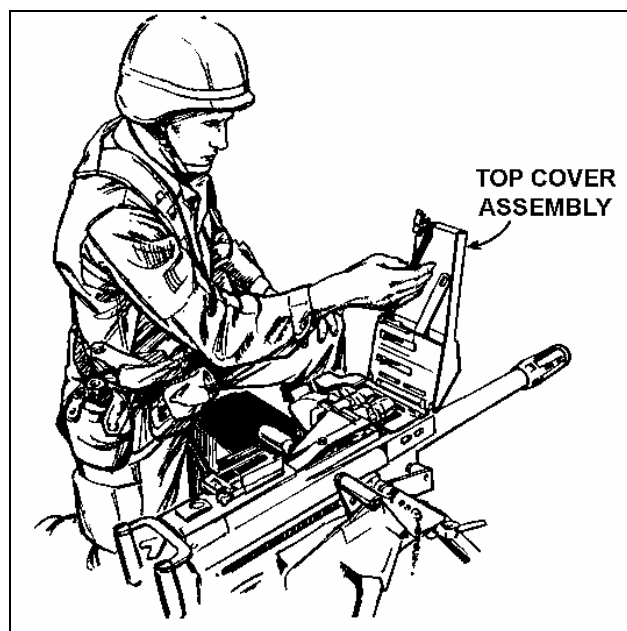

Figure 2-7. Opening the top cover assembly.
(2) Open the top cover assembly (Figure 2-7). If all the ammunition has NOT been fired, the bolt is to the rear and a round is on the bolt face. If the bolt is forward, lock it to the rear.